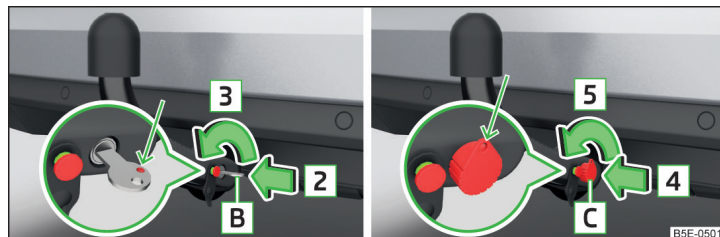

Fig. 296 Unlocking the lock: Key version 1/Key version 2
- Turn key **B** in the direction of arrow **3** so that the red marking is pointing upwards » Fig. 296.
- Turn key **C** in the direction of arrow **5** so that the eye of the key is pointing upwards » Fig. 296.